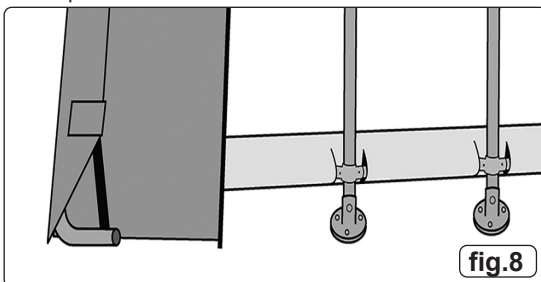
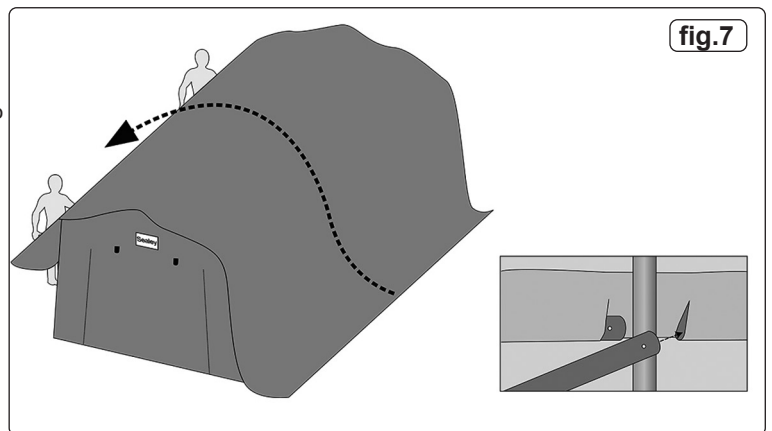

fig.8
fig.7
5.4. TOP COVER (fig.7, fig.8)
Secure all four top cover corners to the outside of the corner legs using the hook on the ratchet (item 21, fig.8).